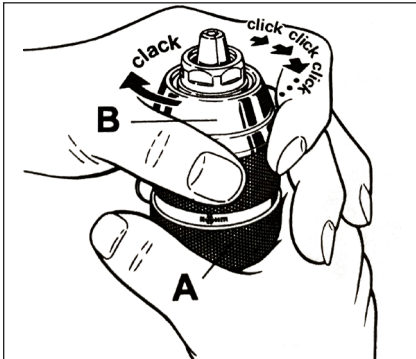

Figure 3: Operating the Chuck
3. For drills equipped with double-sleeve keyless chucks, grasp the sleeves A & B and turn the sleeve B counterclockwise to loosen and clockwise to tighten the chuck's jaws (See Figure 3). Insert the accessory about 3/4" into the chuck and tighten securely by turning sleeve B clockwise until it clicks. The drill bit is firmly chucked after considerable turning and no more clicking from the chuck.